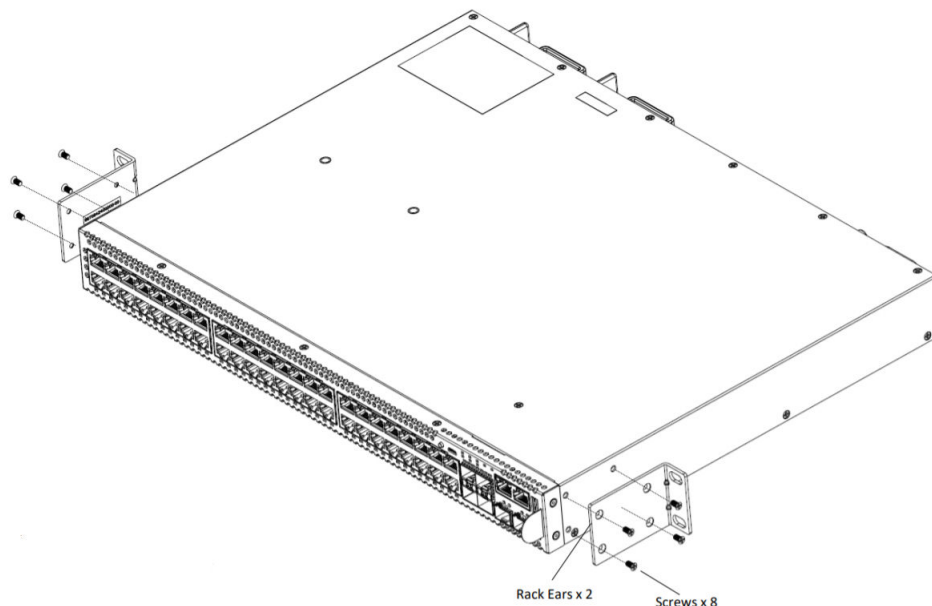

Figure 20: Mid-Mount: Attaching Short Mounting Brackets
- Figure 20 shows a mid-mount configuration using a short mounting bracket.